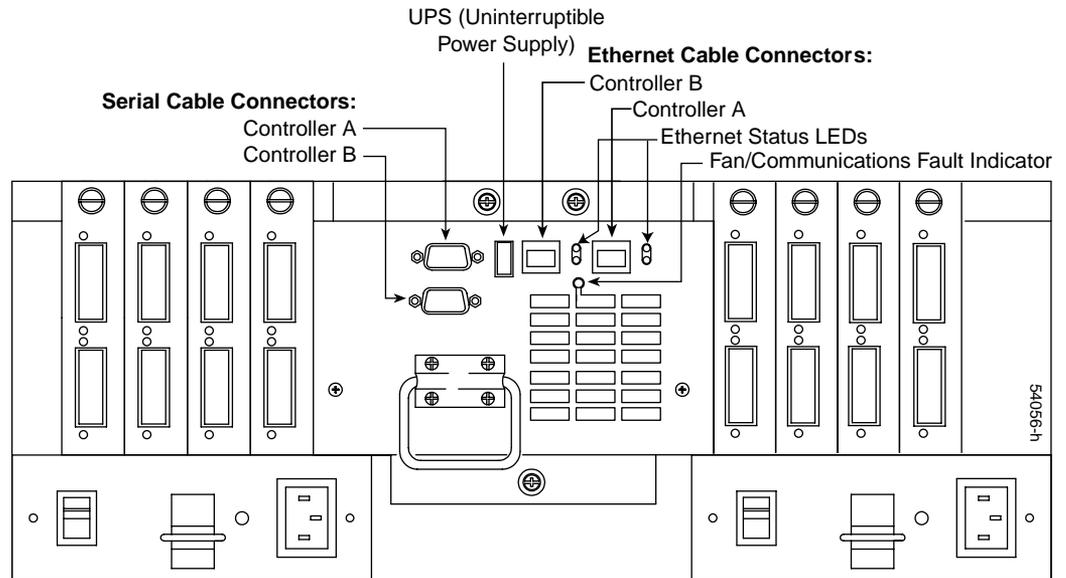

Figure 4-9 Fan/Communications Interface Cables and Fault Indicator
3. Disconnect all interface cables (RS-232 and Ethernet) from the failed fan/communications canister (Figure 4-9).
6. Check the Fan/Communications Fault indicator (Figure 4-9 on page 61). The amber Fault indicator should be off.